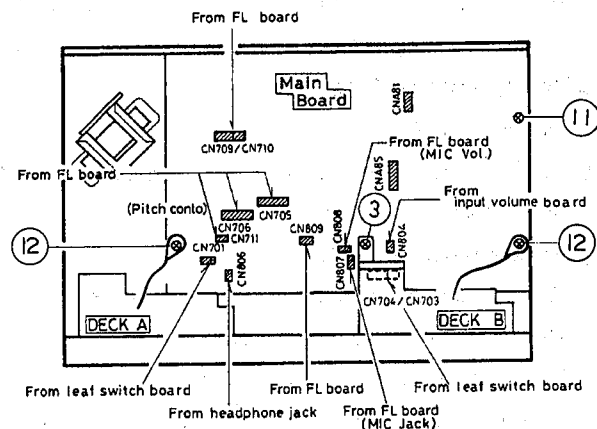

Fig 2 - 3
a) Mechanism ass'y side(Refer to Fig 2 - 4)